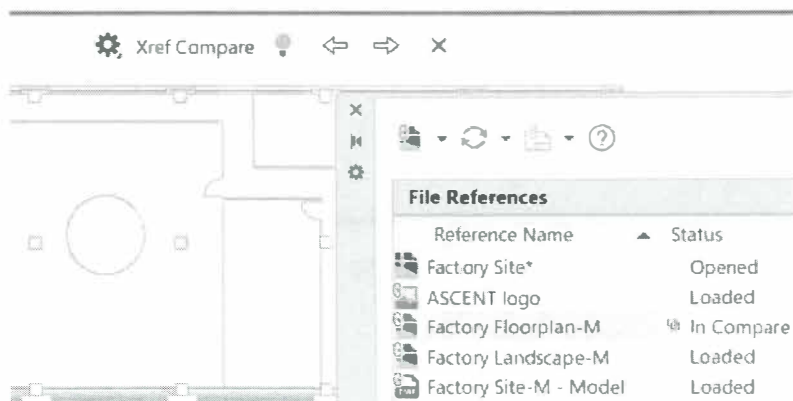

Figure 11-18
- When you start the **Xref Compare** command, the drawing opens in a Compare window which is indicated by drawing being enclosed in a blue border and the Xref Compare toolbar displayed along the top of the drawing window, as shown in Figure 11-18. The changes are highlighted in a revision cloud as shown in Figure 11-18.